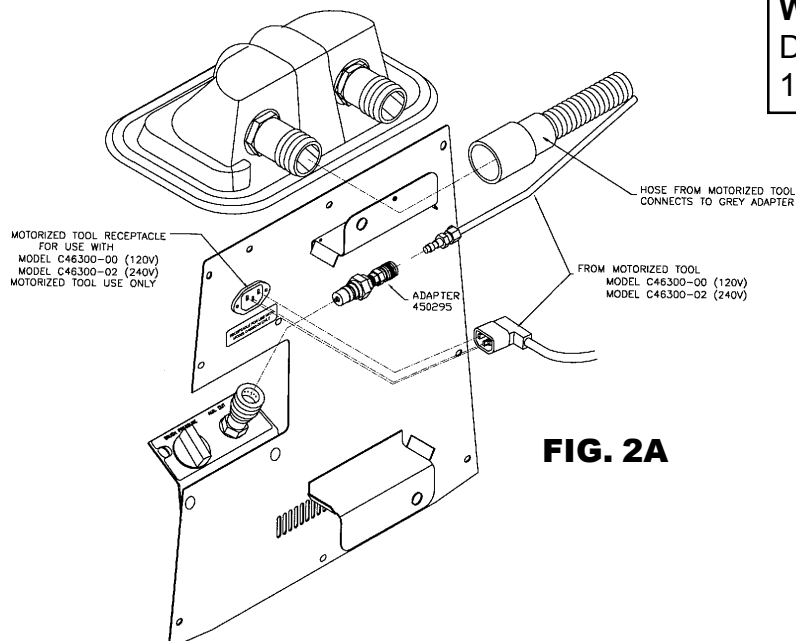

FIG. 2A
2. Connect the vac/solution hose assembly to the "Gotcha!" (see fig. 1) or the Ambassador (see fig. 2A).
3. Plug power cord into the receptacle located at the lower back portion of the machine. (see fig. 2 and fig. 2A).